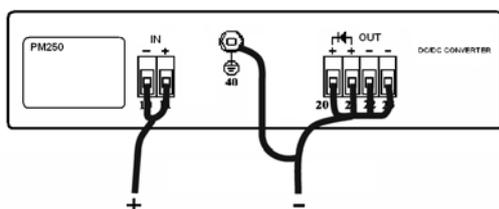

Figure 7. Input to output and input to case isolation voltage test.
- Connect your isolation tester between input and case. See *Figure 7*. Raise the voltage of the isolation tester from 0V to the corresponding isolation test voltage d.c. level according to *Table 2*. Check that the leakage current does not exceed 5μA. The voltage should not be applied for more than a few seconds or the Y-capacitors might be damaged.
- Connect the output terminals of the converter to case. See *Figure 7*.
- Connect your isolation tester between input and case. See *Figure 7*. Raise the voltage of the isolation tester from 0 to 3000V_{a.c.} The voltage should not be applied for more than one (1) minute or the Y-capacitors might be damaged.